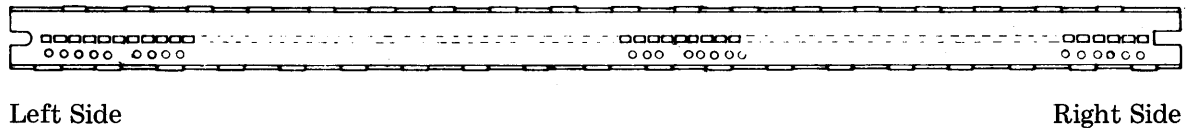

Fig. 31—Channel
*Note:* Left side has curved slot; right side has square slot (Fig. 31).